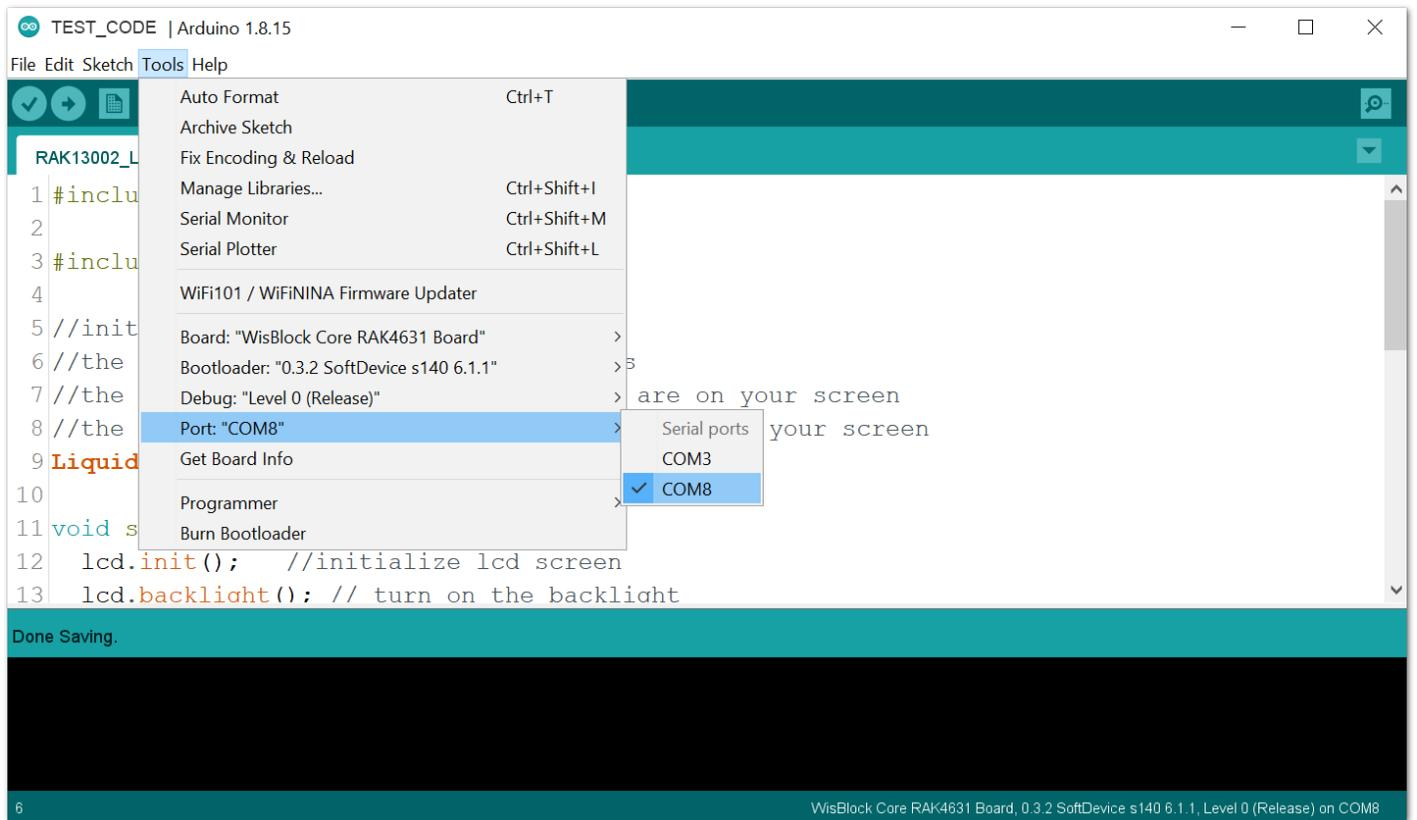
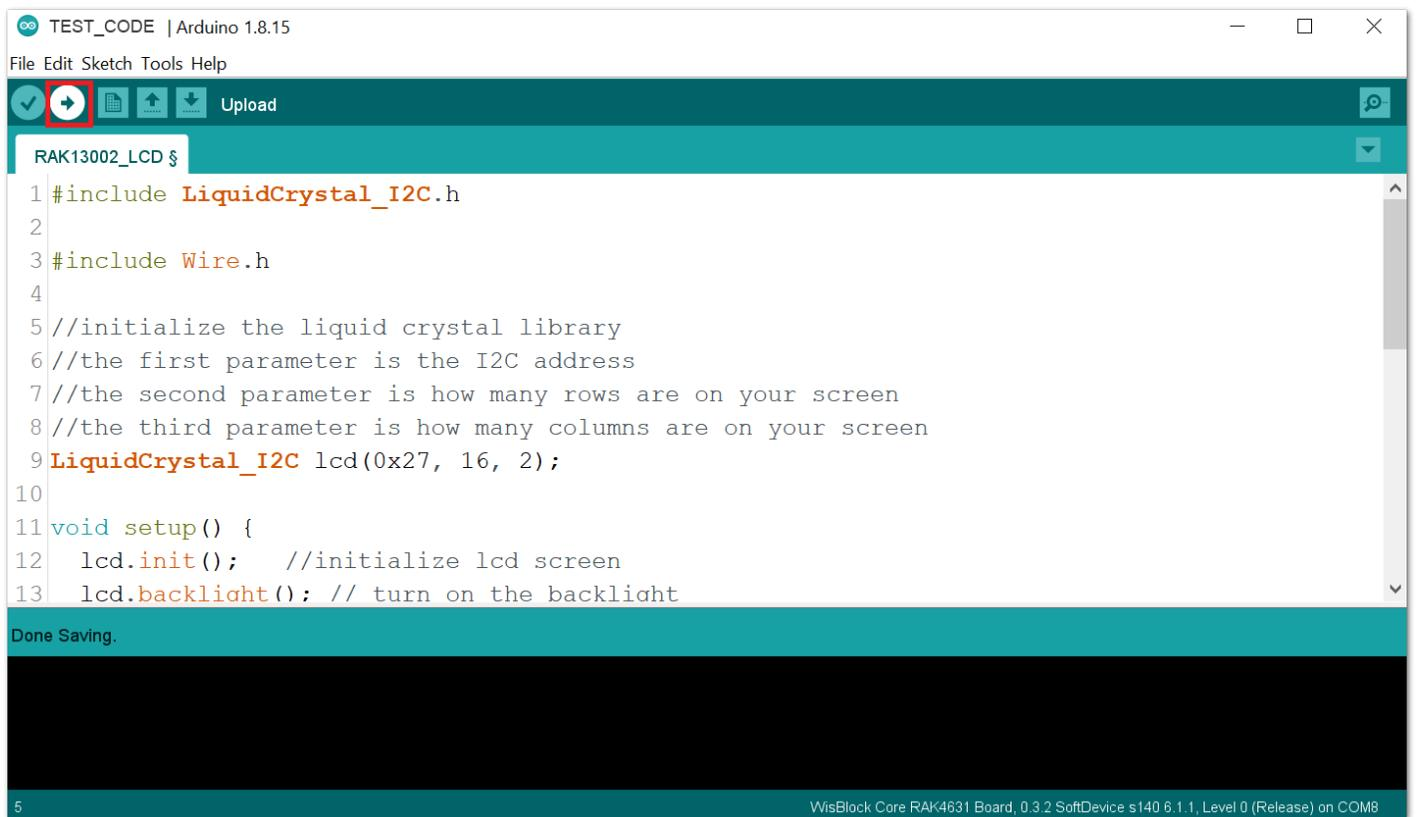

Figure 11: Selecting the correct Serial Port
Figure 12: Uploading the sample code
4. Select the right Serial Port and upload the code, as shown in Figure 11 and Figure 12.